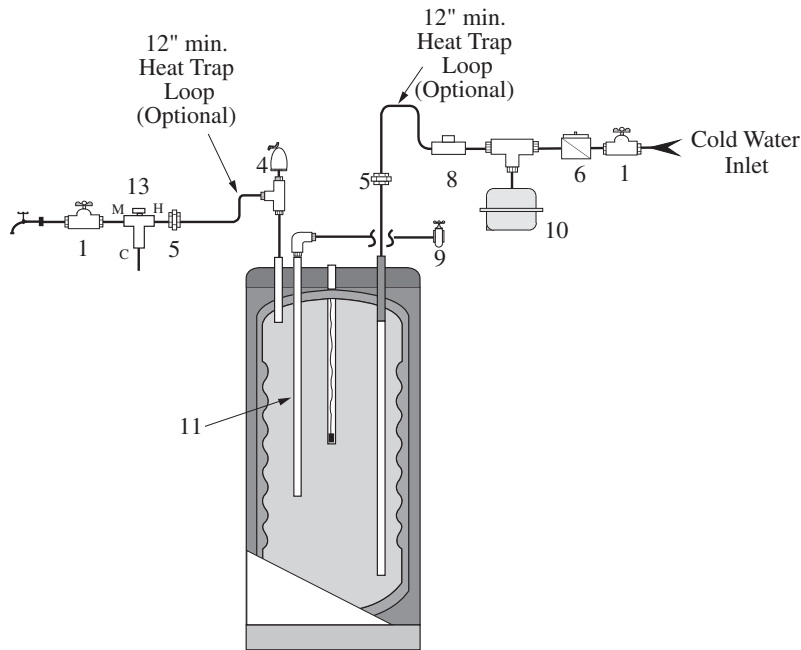

Figure 3.4: Peerless® Partner® Domestic Water Piping: Commonwealth of Massachusetts Requirements
- c. Install a 3/4" NPT elbow to the Auxiliary connection, see Fig. 3.4.